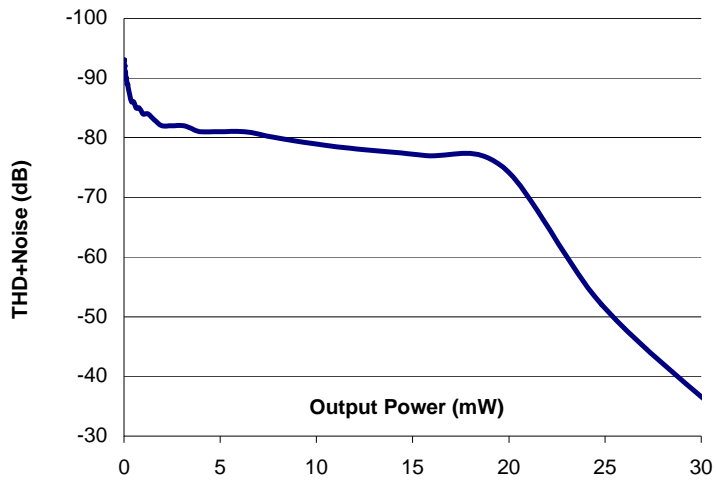

Figure 3 Distortion versus Power on Headphone Outputs, using 32Ω Load and AVDD = HPVDD = 3.3V
1. Harmonic distortion on the headphone output decreases with output power – see Figure 3.